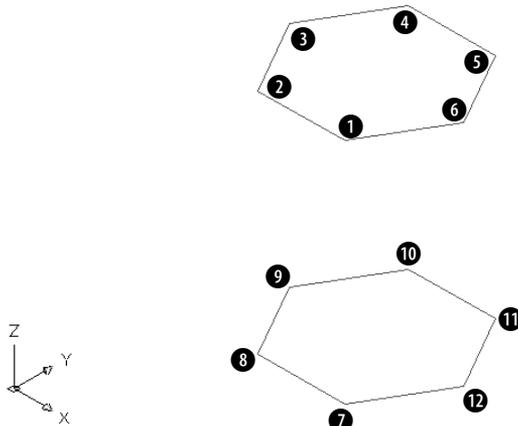

Figure 23-8: The two hexagons are the basis for a night table.
2. Save it as `ab23-02.dwg` in your AutoCAD Bible folder. Two hexagons have been drawn, one 24 inches above the other, on the Const layer, as shown in Figure 23-8.
Specify location for vertex 1: Pick **1** in Figure 23-8.
Specify location for vertex 2 or <define faces>: Pick **2** in Figure 23-8.